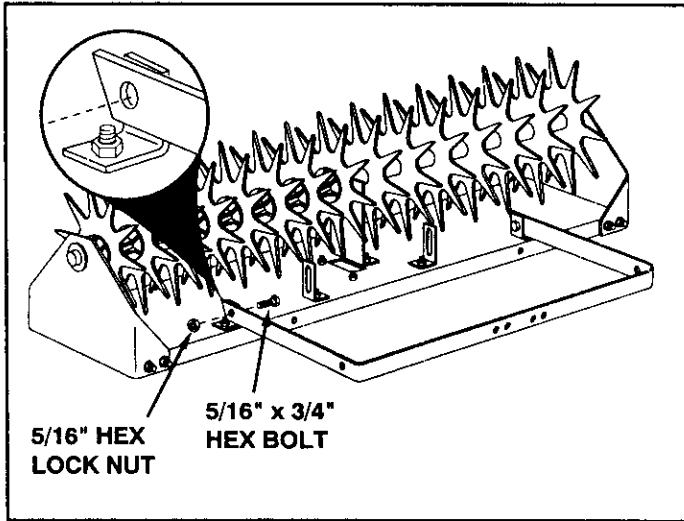

FIGURE 2 REAR VIEW
- Assemble the axle bracket to the angle brackets using two 5/16" x 3/4" hex bolts and 5/16" hex lock nuts. The ends of the axle bracket must point as shown in figure 2. **Tighten** and then loosen the nuts slightly.